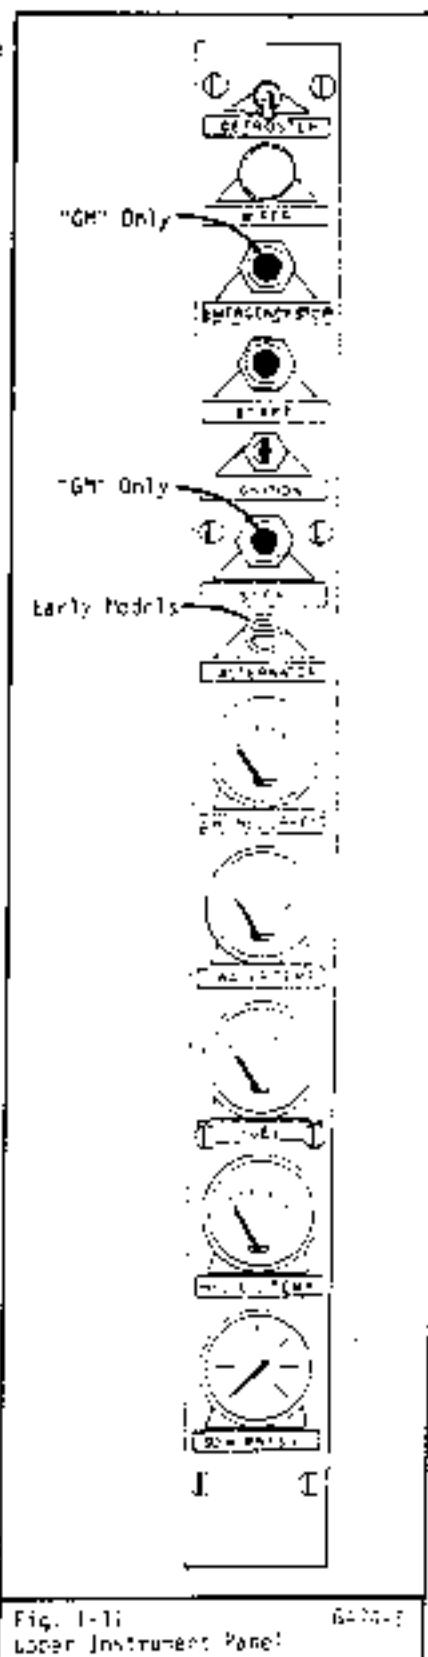

Fig. 1-11 Upper Instrument Panel
**Upper Instrument Panel (Refer to Fig. 1-11)**